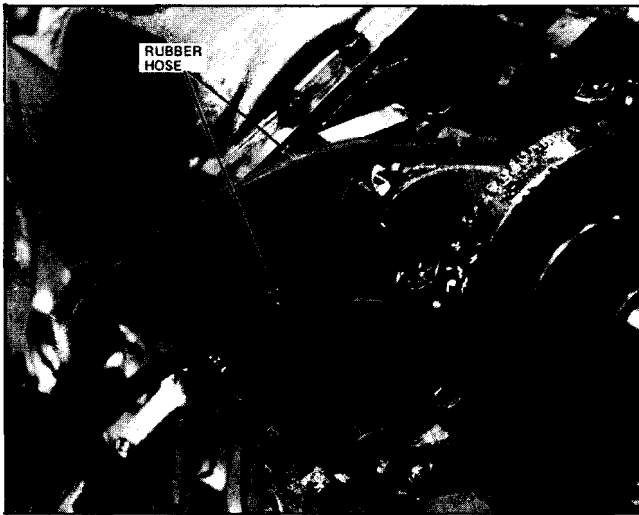

Fig. 6-151 Installing Connecting Rod
5. Install rubber hose on connecting rod bolts (Fig. 6-151).
6. Carefully remove connecting rod and piston assembly by pushing out with hoses (Fig. 6-151).
3. Using the pilot plunger (or plate) indicated in Fig. 6-151 the pin may be pressed out far enough to index with the bore in the base.